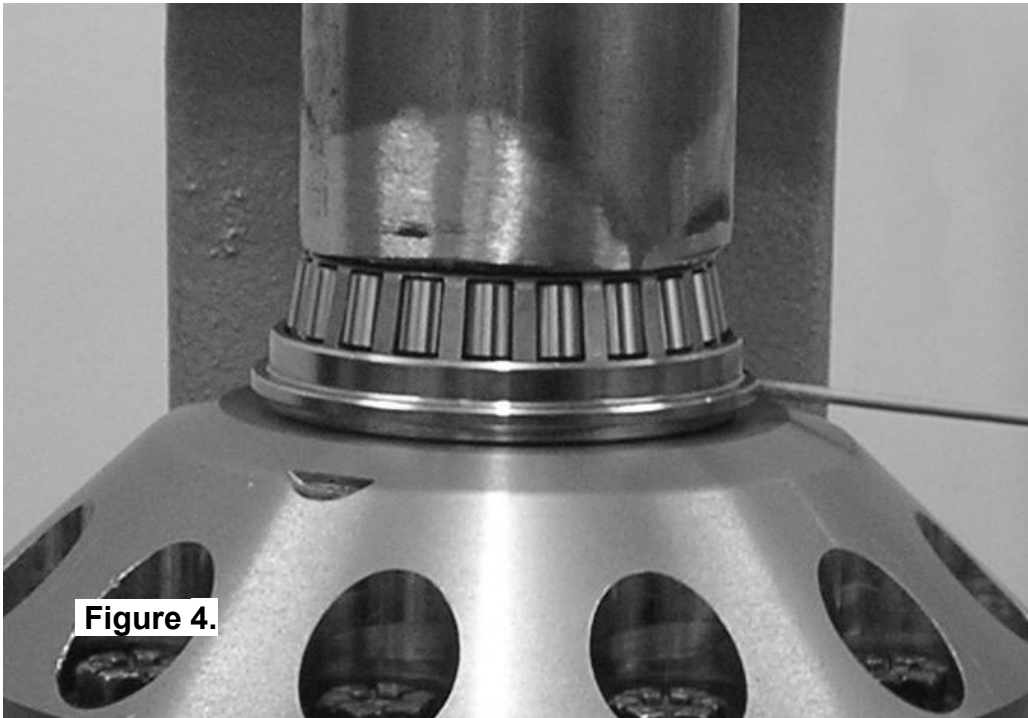

Figure 4.
- Using a bearing press or arbor press, press one of the bearing cones onto the *Air Locker* bearing journal, with the seal housing in place, until the bearing seats firmly against the bearing journal shoulder. (As shown in Figure 4.)